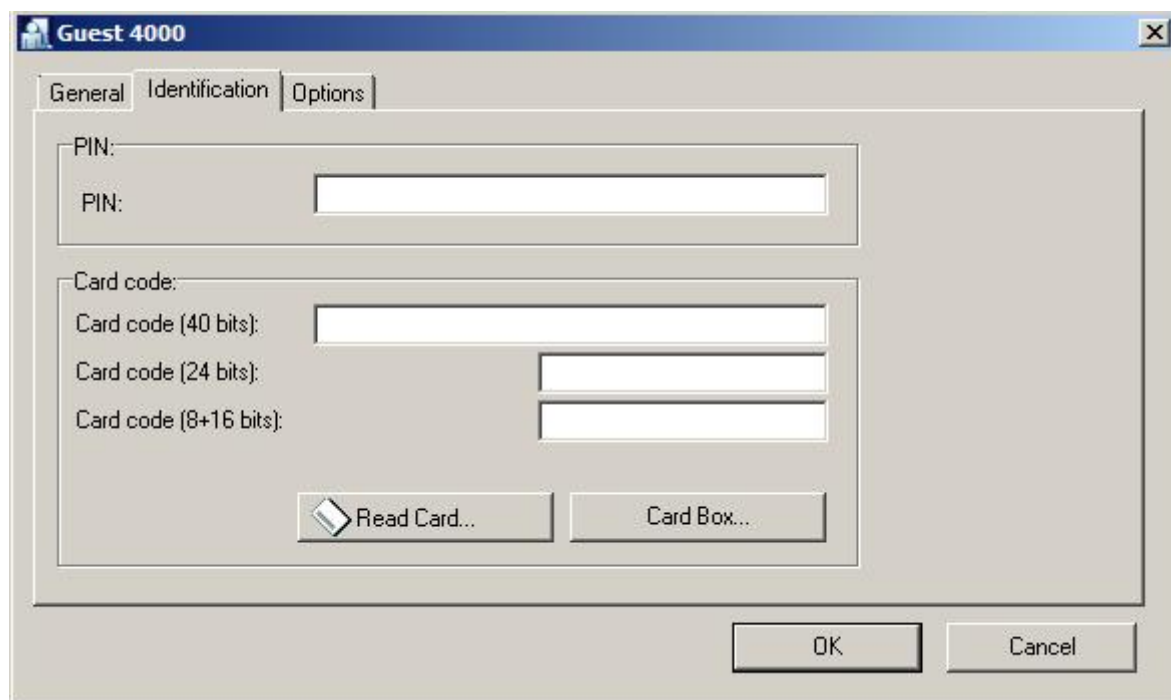

Fig. 8 Identification tab
- In the same window select the tab **Identification** (see fig. 8) and assign proximity card and/or PIN to the guest. Card number can be entered manually or by means of the button **Read card...** RUD-2 is useful for card number readout and it can be connected to computer with PR Master software. If RUD-2 is plugged into USB port then it is automatically visible on the list of available readers.